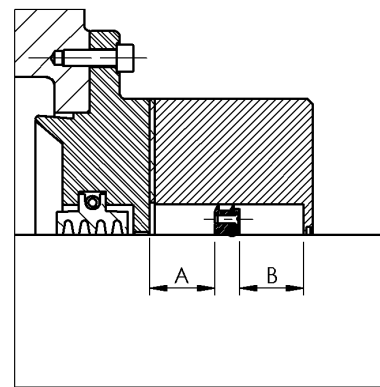

Fig. 63
*The longitudinal displacement (end-play) must be smaller than A + B dimension (See fig. 63)*